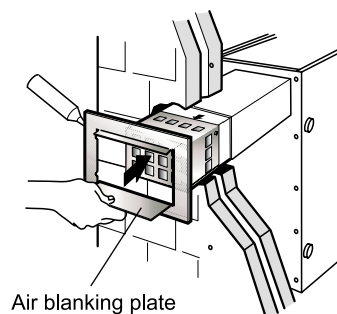

Fig. 25
- Make good the hole in the wall and fit the terminal dress plate using a suitable mastic sealant (not supplied) to provide a weatherproof seal. See Fig. 25.
Ensure that the air blanking plate of the terminal dress plate covers the air intake holes on the underside of the flue terminal as shown in Fig. 25.